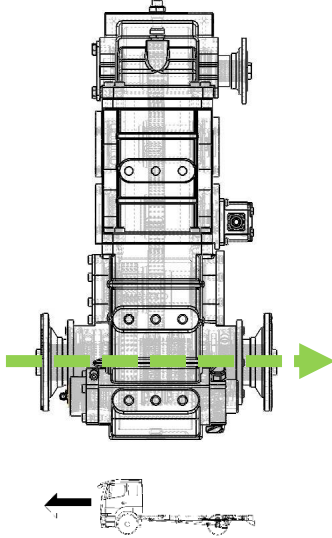
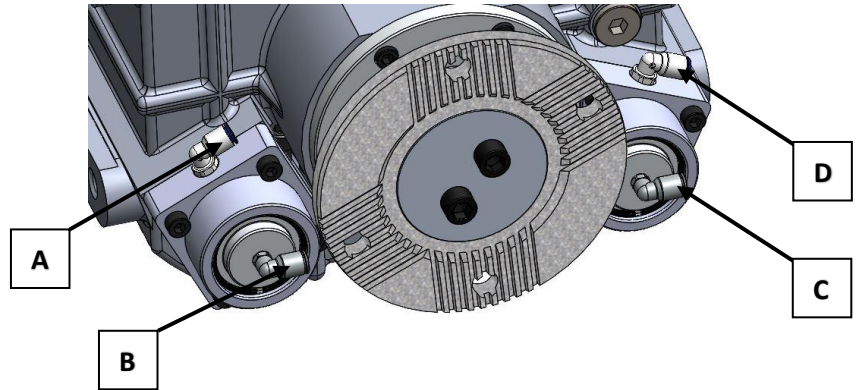

Figure 1
Figure 2
(Figure 1); First, activate air inlet (B). (The equipment will be deactivated.) Then, activate air inlet (C). Air must be supplied continuously throughout the operation. (The air inlets are shown in Figure 2.)